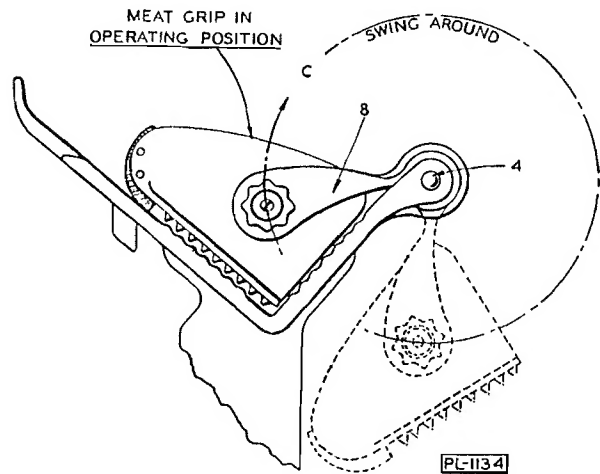

FIGURE 2
- 2 - Swing the grip around as shown by the broken line C, fig. 2,